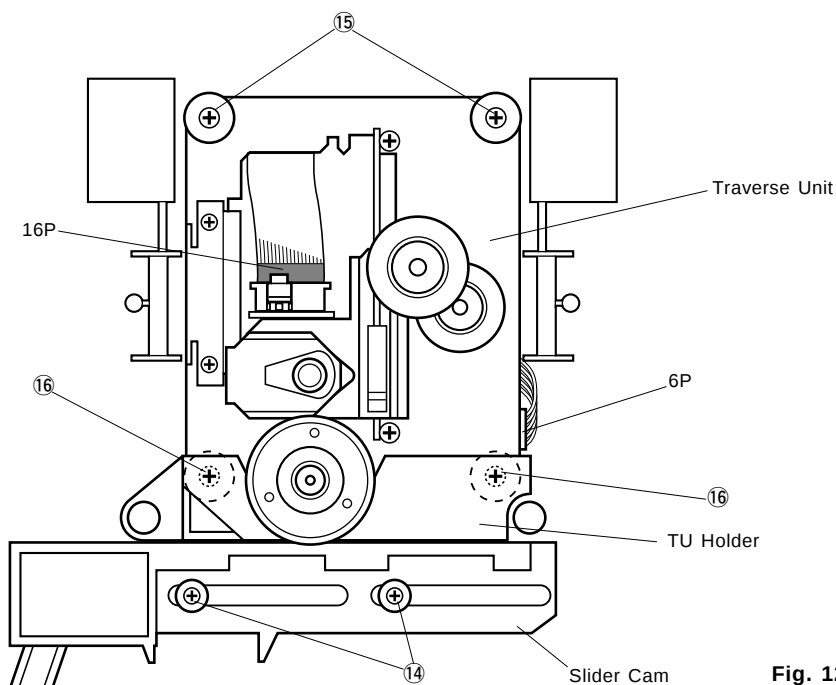

Fig. 12
- Remove 4 screws (14 and 15) in Fig. 12.
- Take out the Traverse Unit with the Slider Cam and the TU Holder in Fig. 12.
- Remove 2 screws (16) and then remove the TU Holder in Fig. 12.